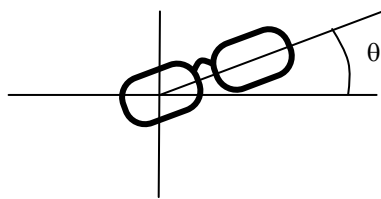

FIG. 7 Positioning eye glasses
- (ii) Left eyeglass are placed in front of LMS and luminance is measured, rotating right eyeglass such as FIG 7. The notation for luminance measurement is "Lum(LE, LB-RW,1)".